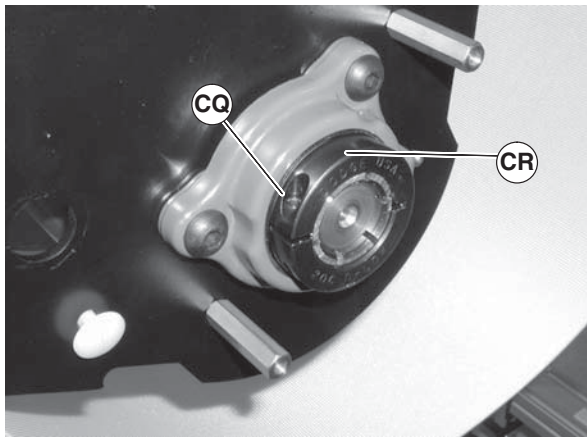

Figure 82
9. Loosen clamp screw (Figure 82, item CQ) and remove bearing collar (CR).